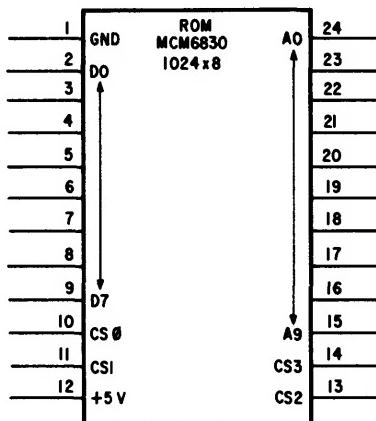

Fig. 9.12 ROM package
The MCM6830 is a TTL compatible, mask-programmable Read Only Memory (ROM). It is a three-state N-MOS chip containing 1024 eight-bit words (bytes) housed in a 24-pin package (Fig. 9.12). The eight ROM data bus pins, D0 through D7, are tied to the MPU data bus pins, D0 through D7. The ten address pins from the ROM (A0 through A9) must be tied to the MPU address bus pins, A0 through A9. These ten address lines are used by the MPU to select an eight-bit word on the particular chip addressed. If there is more than one MCM6830 ROM in the system, the A0 of each ROM is tied to the A0 line in the MPU, the A1 of each ROM is tied to the A1 line in the MPU, and so forth. The MCM6830 ROM has four chip selects available. These four chip selects must be defined by the user as to how many will be positive (CS) and how many negative (\bar{CS}). Since this device is mask-programmable, the